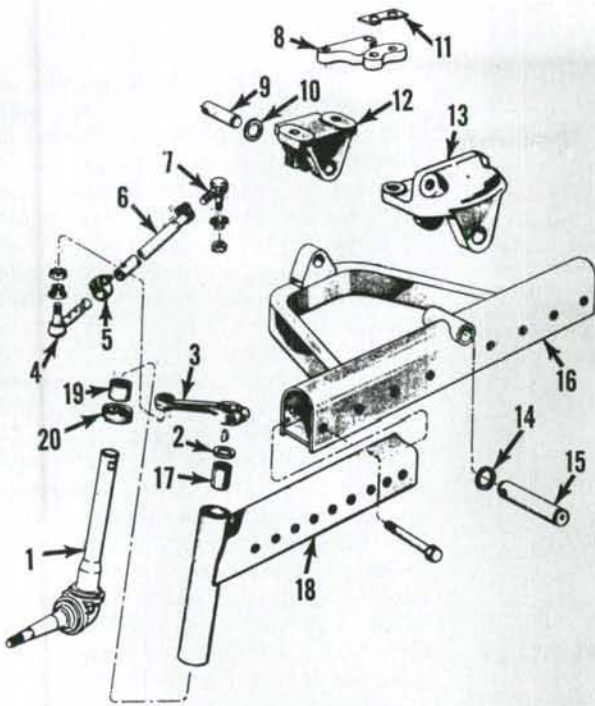

Fig. FO12 — Exploded view of the wide adjustable front axle and associated parts.
3. **SPINDLE BUSHINGS.** The spindle bushings (17 & 19—Fig. FO12 or FO12A) can be removed with a cape chisel after removing steering arms (3) and withdrawing spindles. (1). Bushings are pre-sized and should be installed flush with outer ends of bore using a suitable piloted driver. Tighten the steering arm retaining cap screws to 40-55 ft.-lbs. torque on tractors prior to serial number 21962 having $\frac{1}{16}$ -inch cap screws, or to 65-90 ft.-lbs. torque on later tractors having $\frac{1}{2}$ -inch cap screws.
5. **AXLE PIVOT PINS.** The axle pivot pins (9 & 15—Fig. FO12) of wide adjustable front axles have no bushings and are retained in supports (12 and 13) by cap screws.